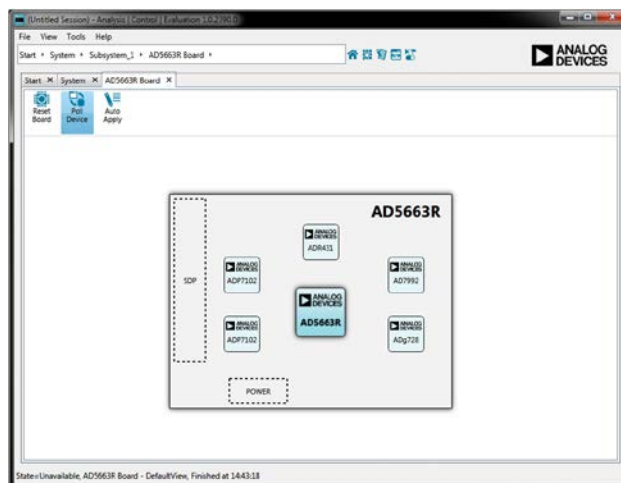

Figure 2. Board View of the EVAL-AD5663R-SDZ
4. Double-click on the board plug-in to open the board view seen in Figure 2.